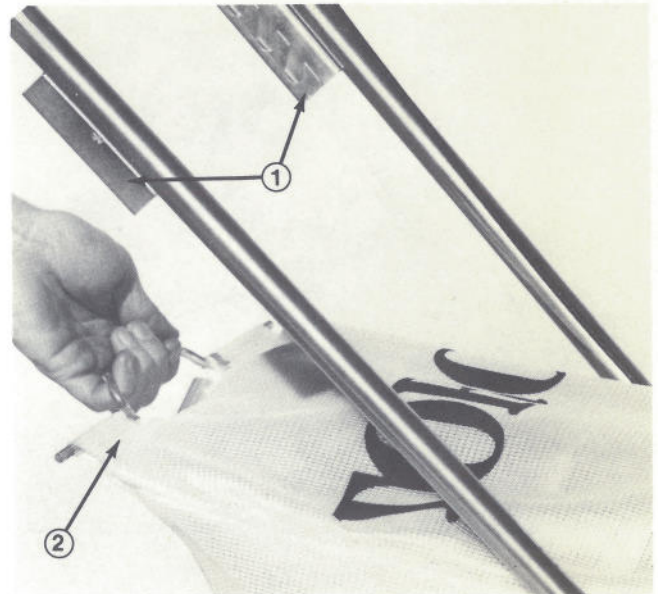
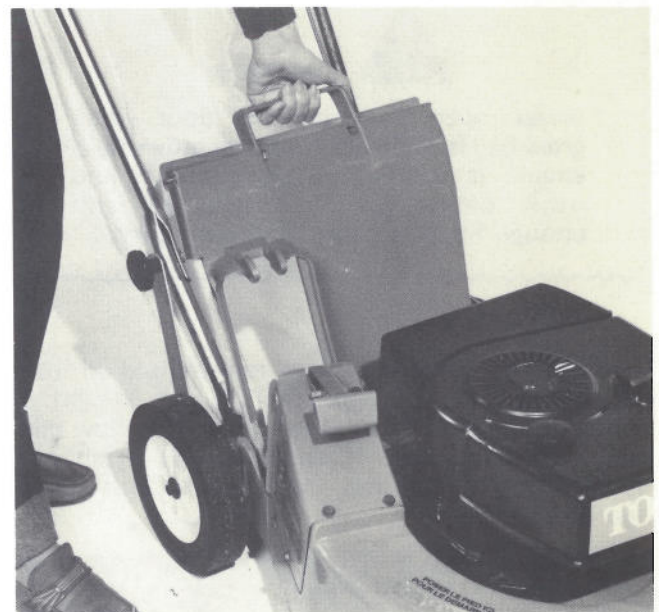

Figure 21
Figure 22
7. ⚠ When bag must be emptied, stop the engine and wait for all parts to stop moving. Move mulcher door handle forward until pin locks in the latch. Then, lift rear bag off rear brackets (Fig. 21), grasp front bag handle and lift straight up to remove bag from mower and keep clippings from falling out of bag (Fig. 22).